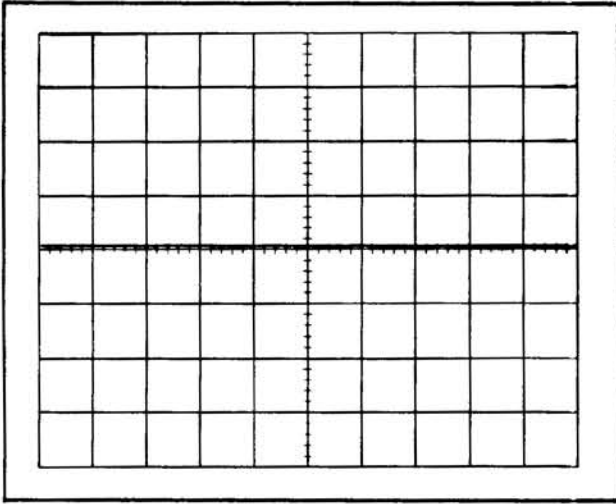

Fig. 5-10. Typical CRT display showing correct channel isolation ratio.
- f. CHECK—CRT display 0.1 division or less in amplitude (channel isolation ratio 100,000:1 or greater; see Fig. 5-10).
- i. CHECK—CRT display 0.1 division or less in amplitude (channel isolation ratio 100,000:1 or greater; see Fig. 5-10).